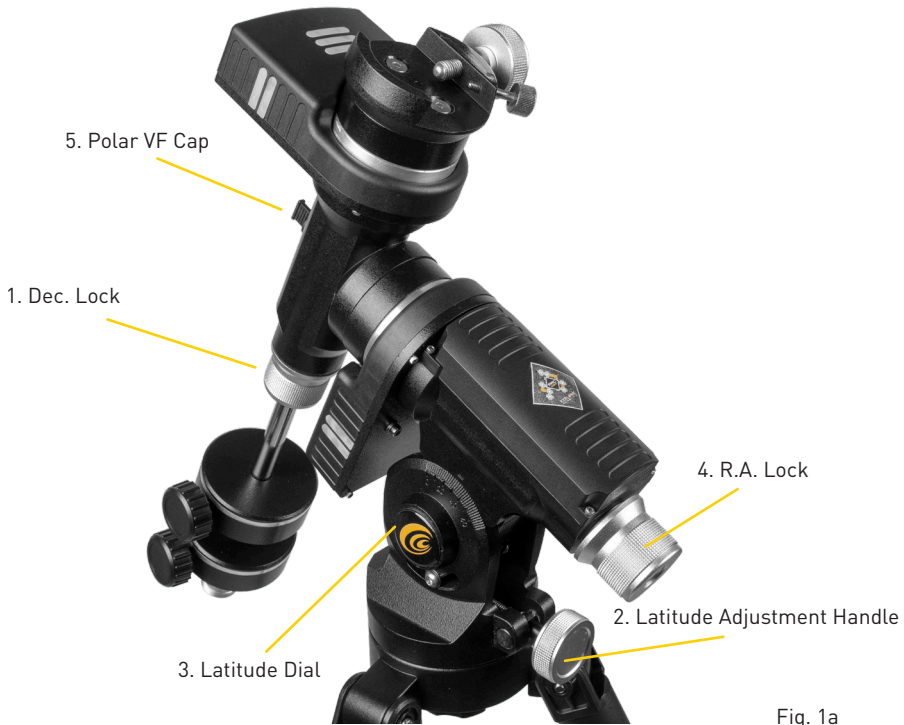

Fig. 1a
- Unlock the R.A. Lock [4, Fig. 1a] Rotate the Optical Tube Assembly until the counterweight shaft is pointing straight down over the mount.
- If you have not already done so, lift the telescope assembly and turn it so that the tripod leg beneath the counterweight rod faces approximately North (South in the Southern Hemisphere). Release the Dec. lock [1, Fig. 1a] of the tripod, so that the optical tube may be rotated. Rotate the optical tube until it points North (or South in the Southern Hemisphere). Then re-tighten the lock. Locate Polaris, the North Star, if necessary, to use as an accurate reference for due North (or Octantis in the Southern Hemisphere).
- If you have not already done so, determine the latitude of your observing location. Visit the LATITUDE AND LONGITUDE TOOL at explorescientific.com/latitude_longitude/ to find latitudes of any place on Earth. Once you have found your observing location, use the Latitude Adjustment Handle [2, Fig. 1a] to tilt the telescope mount so that the pointer indicates the correct latitude of your viewing location on the latitude dial [3, Fig. 1a].